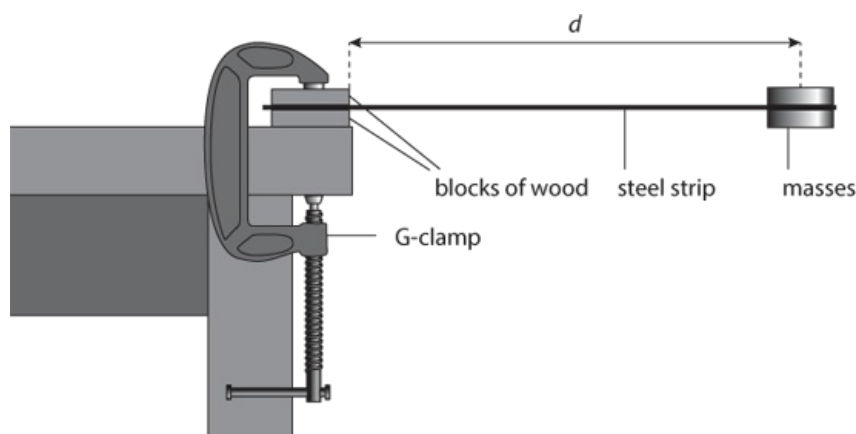

Figure 11.2: Steel strip clamped at one end, mass on the other.
- 1 Set up the apparatus as shown in Figure 11.2.